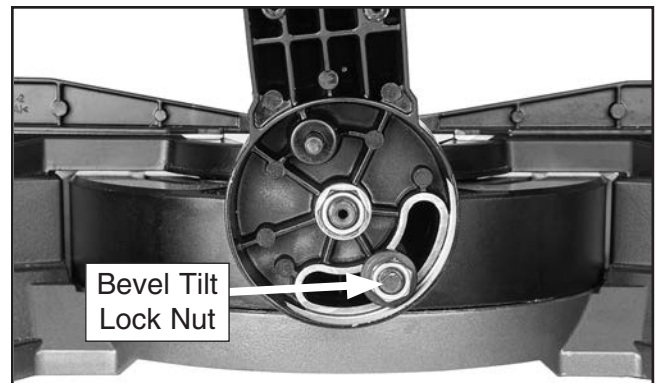

Figure 19. Bevel tilt lock nut location.
4. Loosen bevel tilt lock nut in 1/6 turn increments until cutting head can be adjusted as instructed in **Step 2** (see **Figure 19**).